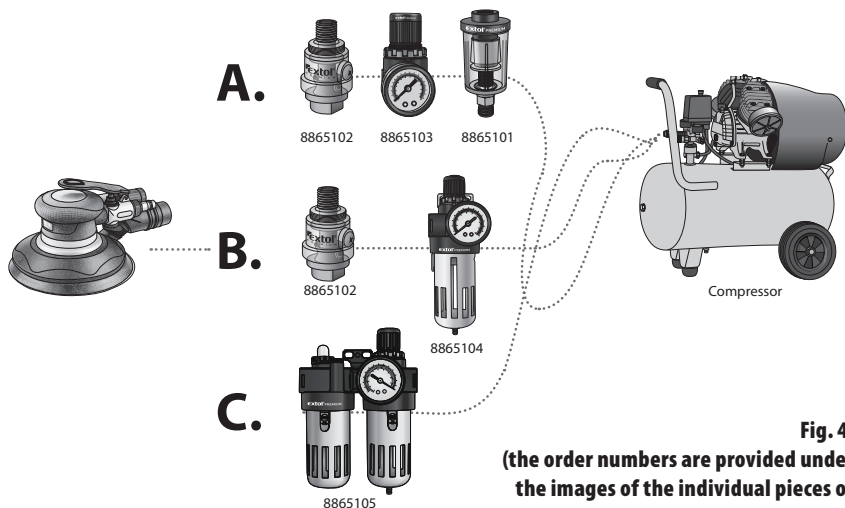

Fig. 4,
Order number of equipment (fig. 4)	Description of equipment (treatment units)
Equipment order number (fig. 4)	Description of equipment (treatment units)
- The air sander is powered by compressed air that must be free of moisture-condensate and must contain a pneumatic oil additive. For this purpose, there is peripheral equipment pictured and described in the diagram on fig. 4 below, which must be installed in front of the air flowing into the sander in the provided order.
POSSIBLE METHODS OF CONNECTION (SEE DIAGRAM IN FIG. 4)
- The order of the treatment equipment in the diagram in fig.4 must be maintained during connection.
USING THREE TREATMENT UNITS (1 + 1 + 1) ACCORDING TO POINT A) FIG. 4
USING TWO TREATMENT UNITS (1 + 2-IN-1) ACCORDING TO POINT B) FIG. 4
USING ONE TREATMENT UNIT (3-IN-1) ACCORDING TO POINT C) FIG. 4